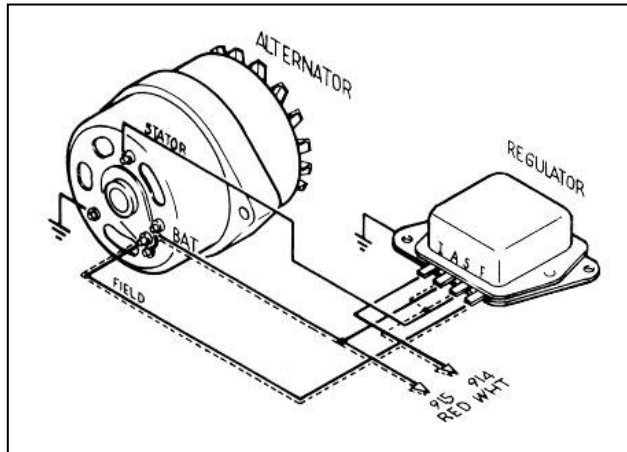

Figure 8-1A Ford Alternator (2 configurations)
8.1 Ford Alternator (2 configurations). See Figure 8-1A.
Note: Your Alternator may not appear exactly as represented in **Figure 8-1A**. The circuits are wired the same way, though.
8.1.5 An alternate (and less-used) method is to omit the Alternator Stator wire, install a 14-gauge jumper across Voltage Regulator terminals A & S, and connect wire #914 to either the A or S terminal of the Voltage Regulator. The FIELD wire and wire #915 are connected as above. Do **NOT** install a jumper as in **Paragraph 8.1.2**. The Voltage Regulator Ignition (I) terminal is not connected. Install ground wires as in **Paragraph 8.1.4**. This alternate configuration is illustrated in dashed lines in **Figure 8-1A**.